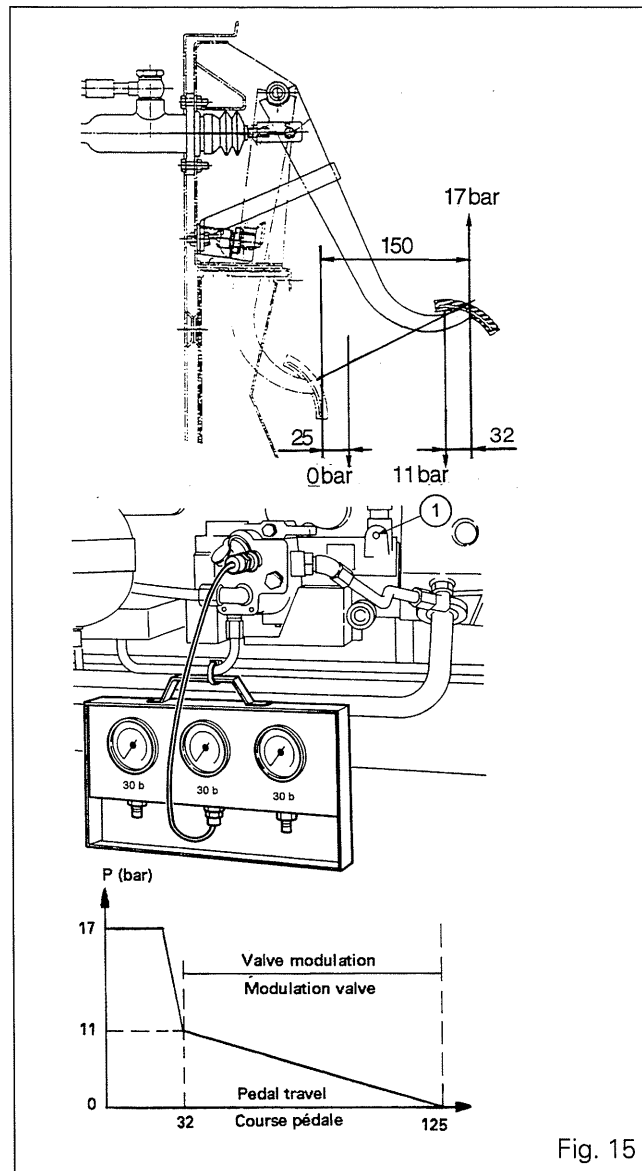

Fig. 15
- Connect a pressure gauge to the diagnostic connector of the wet clutch valve located on the right-hand side of the gearbox (Fig. 15) to check **P24**.